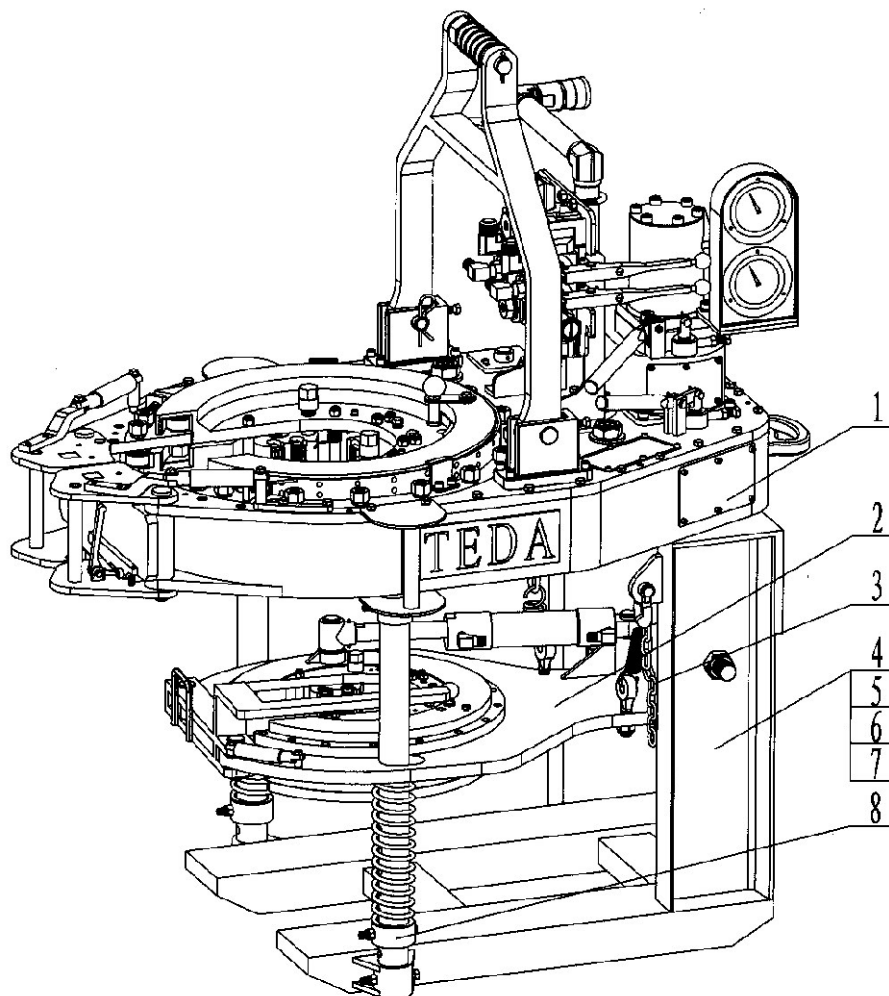

Fig 4
- 7.1. General assembly (Fig4, Table3)